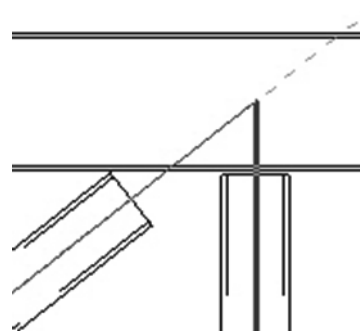

Figure 7–11
- Work from the centerline of all of the framing members so that the analytical line extends into the adjacent framing, even though the graphical member stops at the edge of the column or beam, as shown in Figure 7–11.